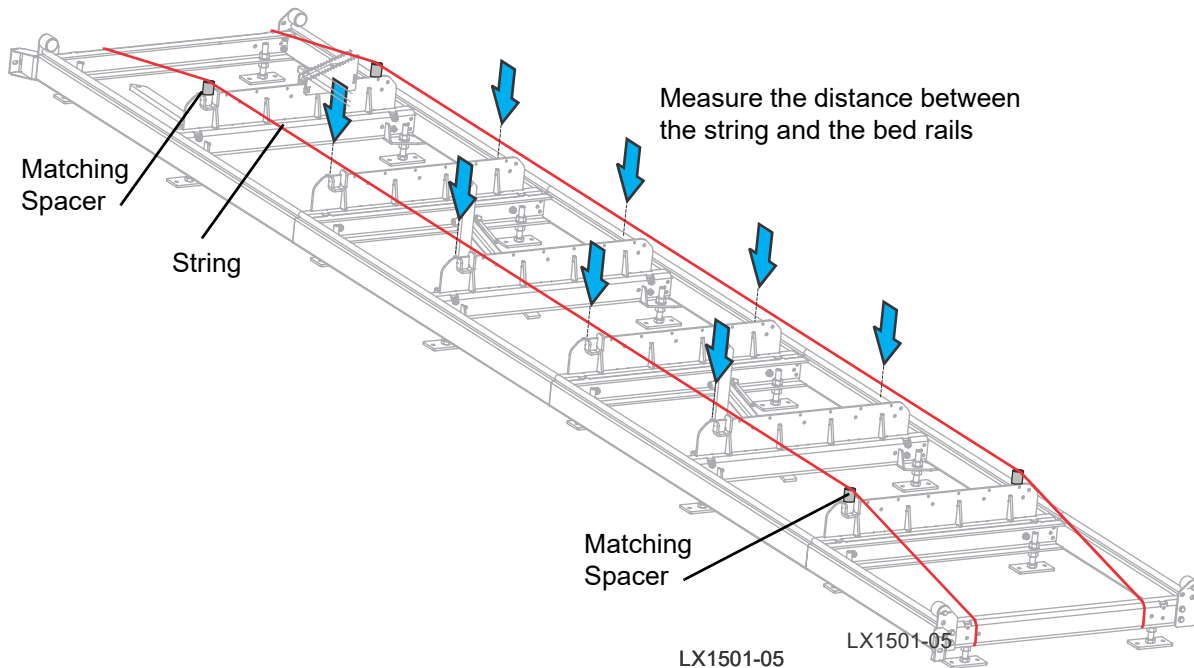

FIG. 3-12
2. Run a string from the front bed rail to the rear bed rail near the operator's side of the frame. See Figure 3-12.
See Figure 3-12.